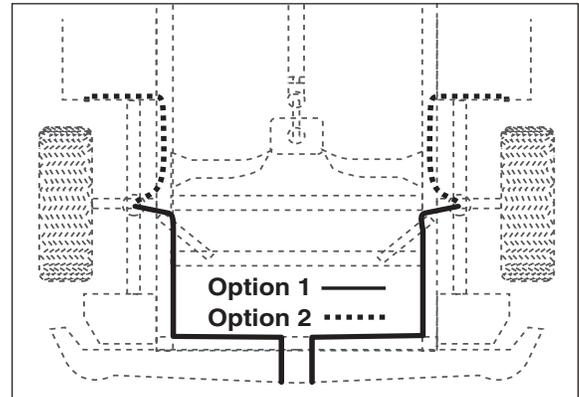

Figure 5
6. Route the air line along the frame to the air fitting on the air spring (Figure 5). Keep at least 6" of clearance between the air line and heat sources, such as the exhaust pipes, muffler, or catalytic converter. Avoid sharp bends and edges. Use the plastic tie straps (BB) to secure the air line to fixed, non-moving points along the chassis. Be sure that the tie straps are tight, but do not pinch the air line. Leave at least 2" of slack to allow for any movement that might pull on the air line.
7. On the exhaust side only, place the provided thermal sleeve (P) on the air line near the exhaust.